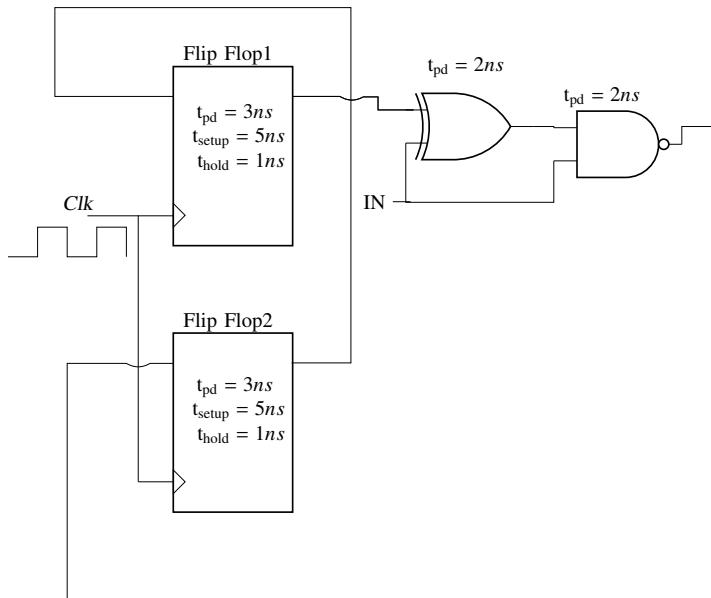

Fig. 5.22
22. For the components in the sequential circuit shown in Fig. 5.22 below,  $t_{pd}$  is the propagation delay,  $t_{\text{setup}}$  is the setup time, and  $t_{\text{hold}}$  is the hold time. The maximum clock frequency (rounded off to the nearest integer) at which the given circuit can operate reliably is \_\_\_\_\_ MHZ. (GATE EC2020 – 50)